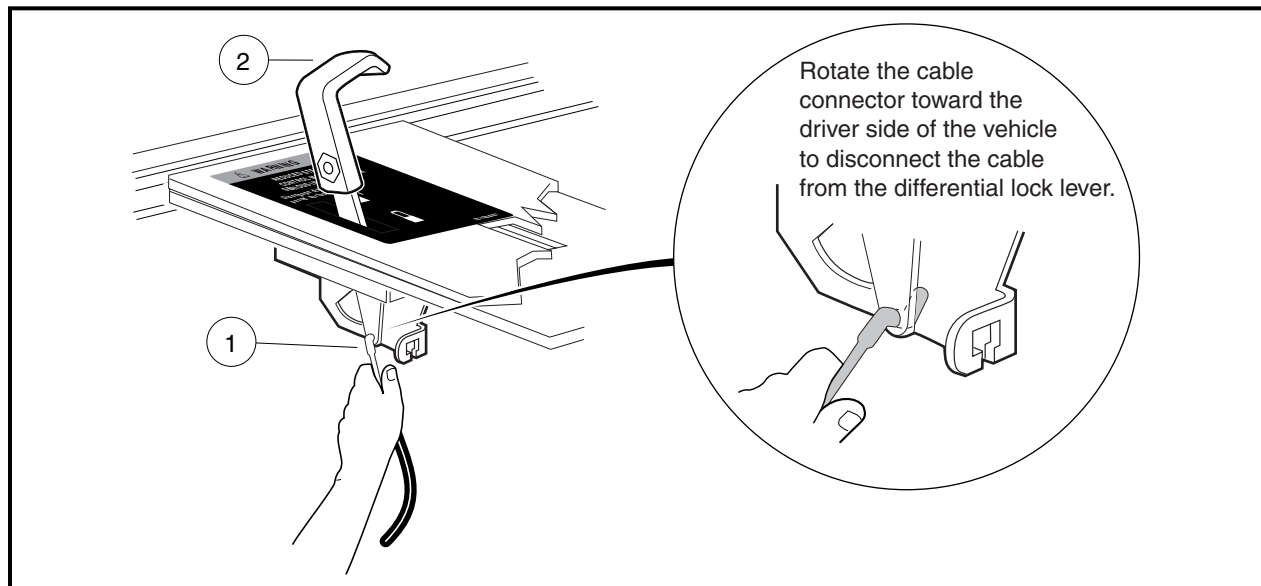

Figure 16-12 Differential Lock Cable Bracket
- 5.2. Use a pair of pliers and apply pressure to the locking tabs of the cable end (1) where it attaches to the differential lock handle mounting bracket (**Figure 16-12, Page 16-8**). Pull the differential lock cable toward the rear of the vehicle to disconnect the cable from the bracket (**Figure 16-12, Page 16-8**).